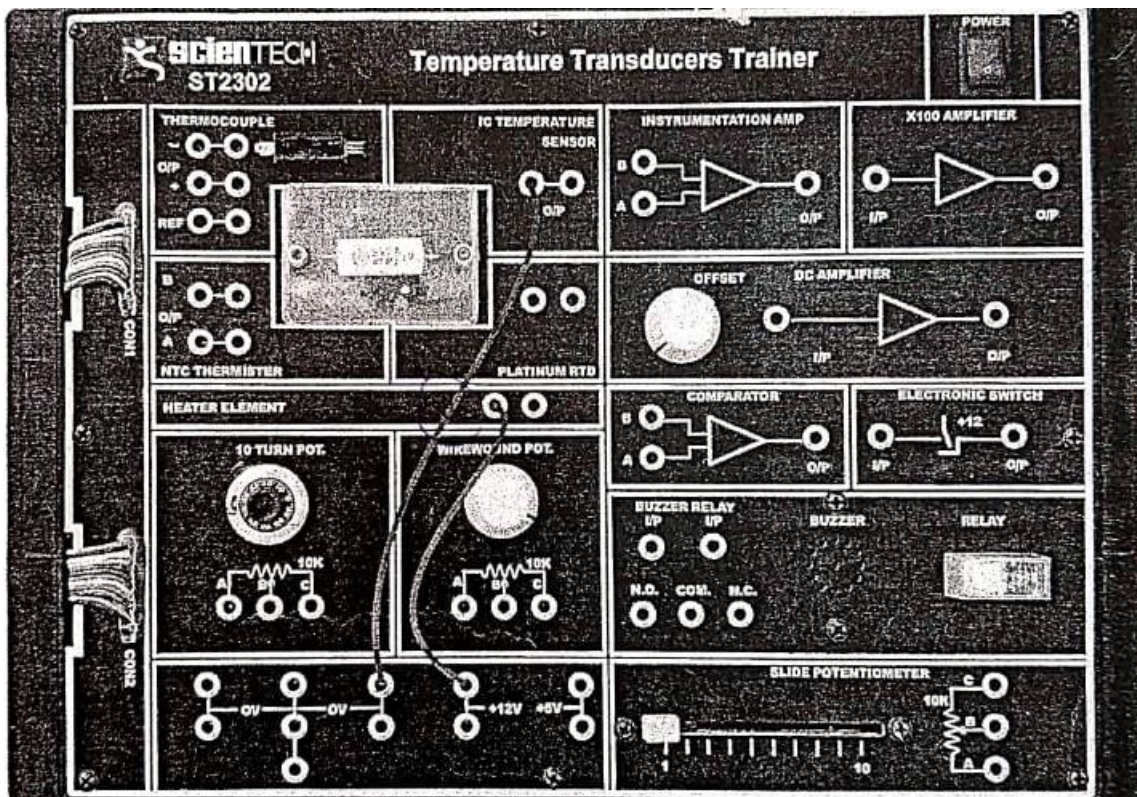

Figure 8(A).1
1. Connect just the digital multi-meter as voltmeter between O/P socket of IC temperature sensor. See Figure 8(A).1.